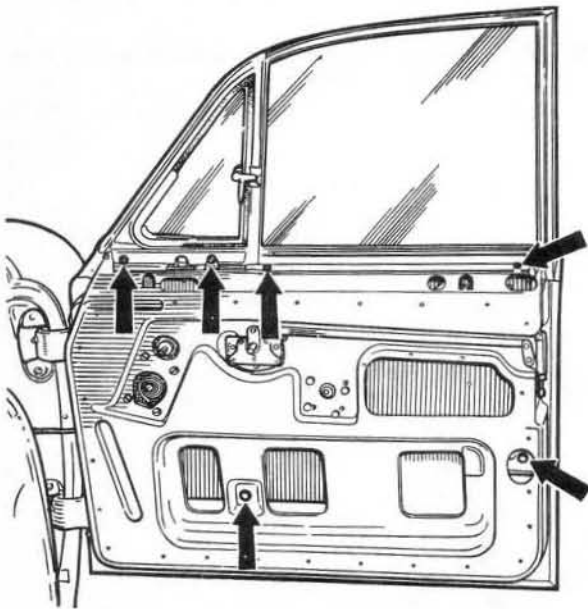

Fig.12.10. Location of the window frame securing screws and bolts
- 3 Remove the round headed screws which secure the window frame just below the top of the door panel (Fig.12.10). Note the number of packing pieces under each screw as these must be put back in the same place.